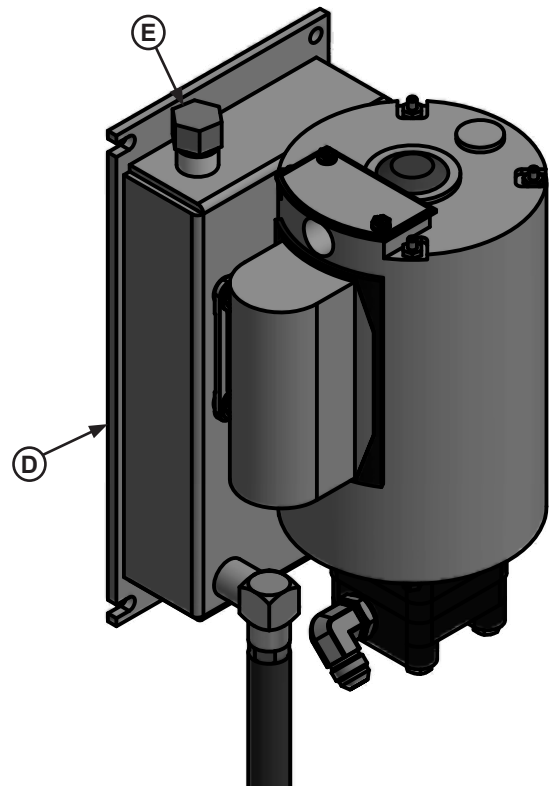

Figure 13
- Check reservoir fluid level (see Figure 13):
3. Remove rear service panel, then locate fluid reservoir (D).
4. Remove breather cap (E).
5. Measure fluid level using the dipstick attached to the breather cap (E). The fluid level should contact the tip of the dipstick approximately 1-1/2 in. (38.1 mm) from top of reservoir with barrier in the lowered position.